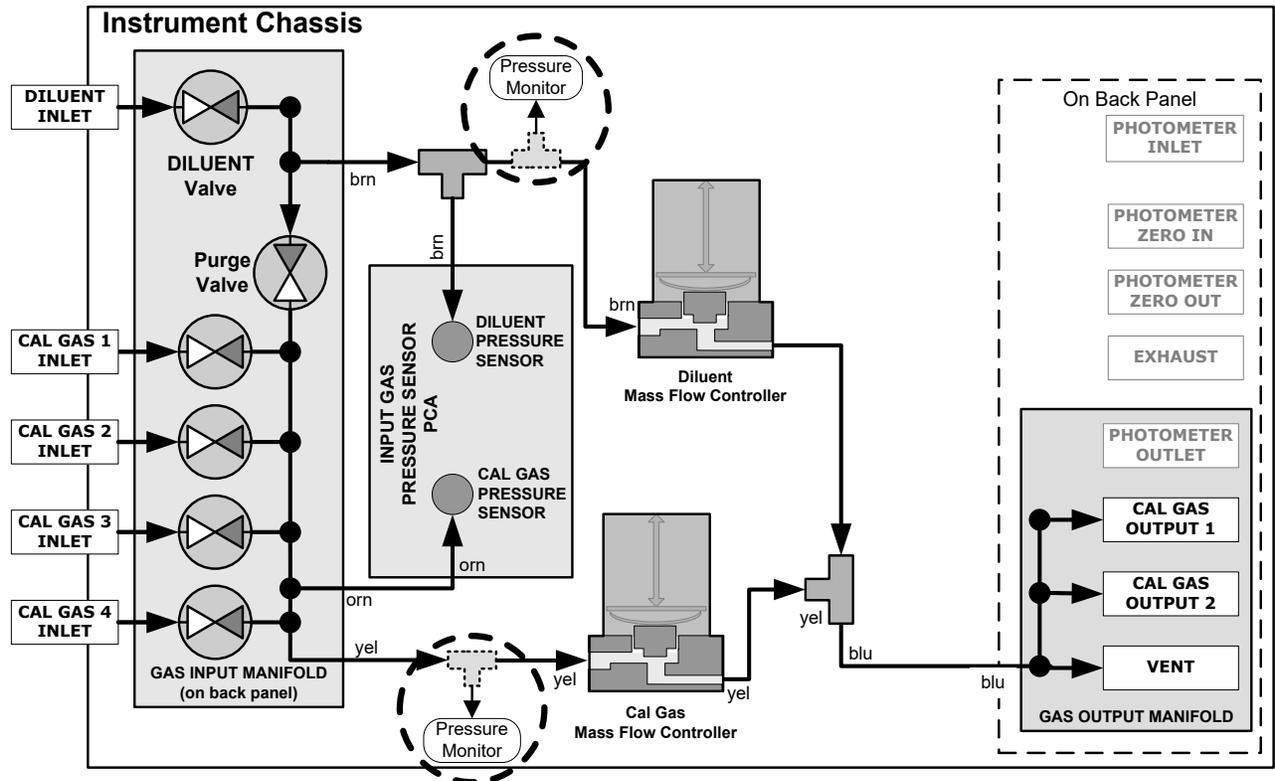

Figure 5-11. Pressure Monitor Points in Basic Unit
2. For the sensor being calibrated, insert a “T” pneumatic connector and pressure monitor at the location described in Table 5-2 and shown in Figure 5-11 and Figure 5-12.